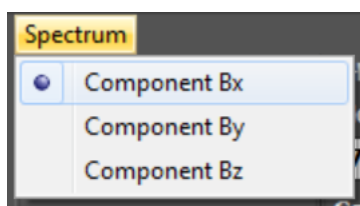

Figure A.11. The "Spectrum" menu
- The "Spectrum" menu consisting of three items (see Figure A.11) is called to select the  $B_x$ ,  $B_y$  or  $B_z$  components and represent the spectrum of a selected component.